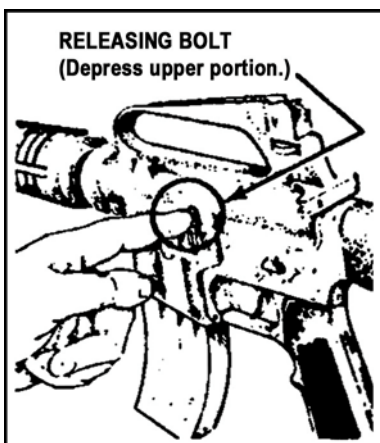

Figure 7. Bolt catch.
- (1) Depress the upper portion of the bolt catch to release the bolt (Figure 7).